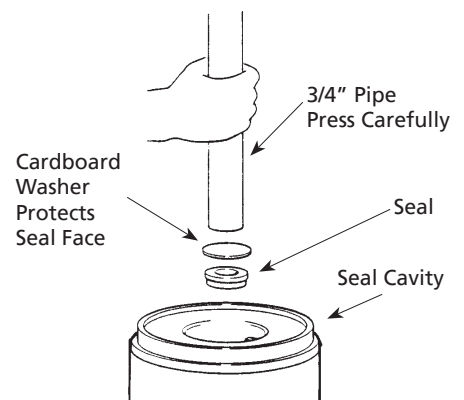

Figure 36C - If Necessary, Press With Cardboard And Pipe
7. If seal does not seat correctly after recleaning cavity, place a cardboard washer over polished seal face and carefully press into place using a piece of standard clean 3/4" pipe as a press (See Figure 36C).